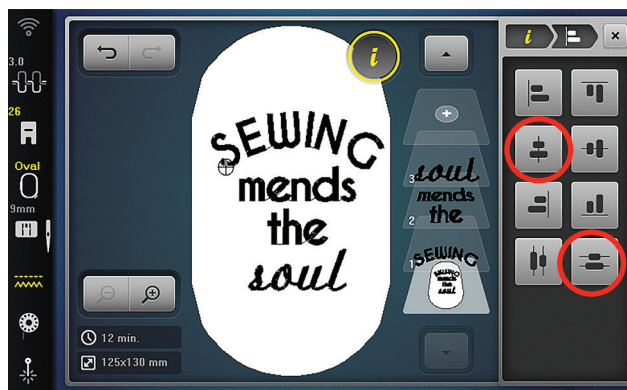

Fig. 17
17. From the Information Menu, select Align and then Align Centers Vertically and Distribute Horizontally (Fig. 17).